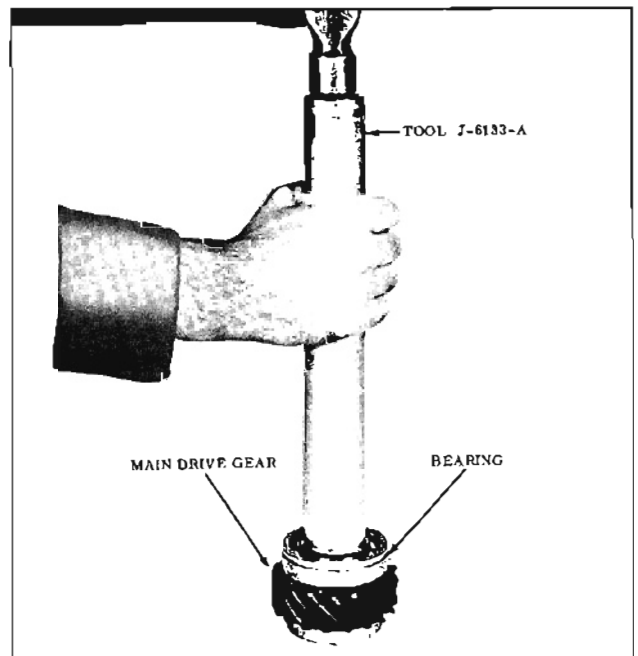

Fig. 7-22 Installing Bearing
5. Install the main drive gear bearing on the shaft, shielded side toward gear with Tool J-6133-A. (Fig. 7-22)